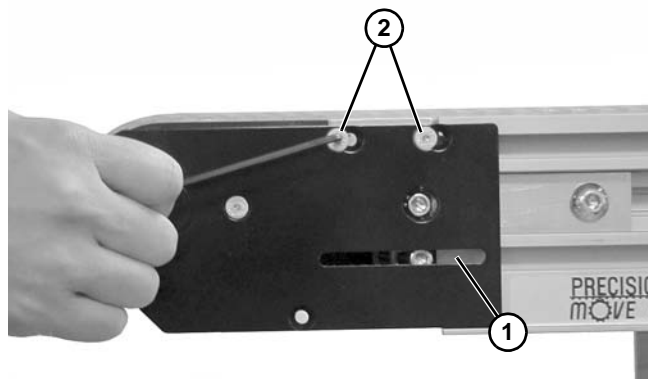

Figure 22
8. On the tension end of the conveyor, identified by the pinion access slot (**Figure 22, item 1**), remove two fastening screws (**Figure 22, item 2**) on one side of the tension end.